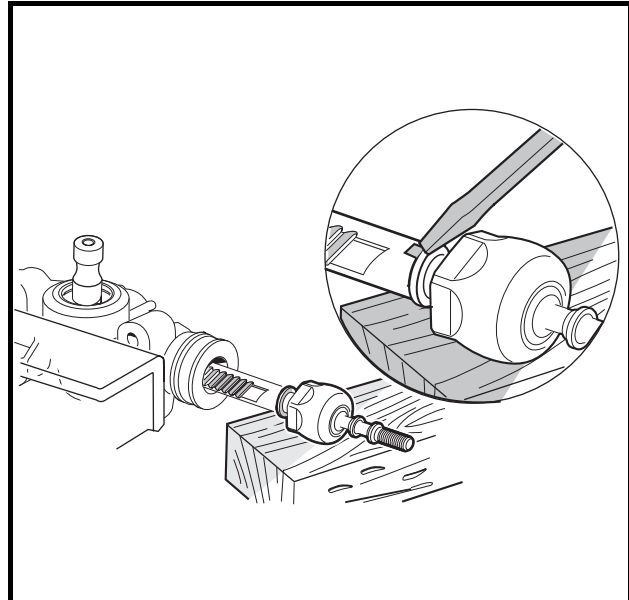

Figure 7-20 Install Inner Ball Joint
7. Install the ball joints (9) onto the rack (2). Secure the rack in a vise with wood blocks between the rack and the jaws of the vise to protect the rack from damage, and tighten the ball joints to 60 ft-lb (81 N·m) (**Figure 7-20, Page 7-10**).